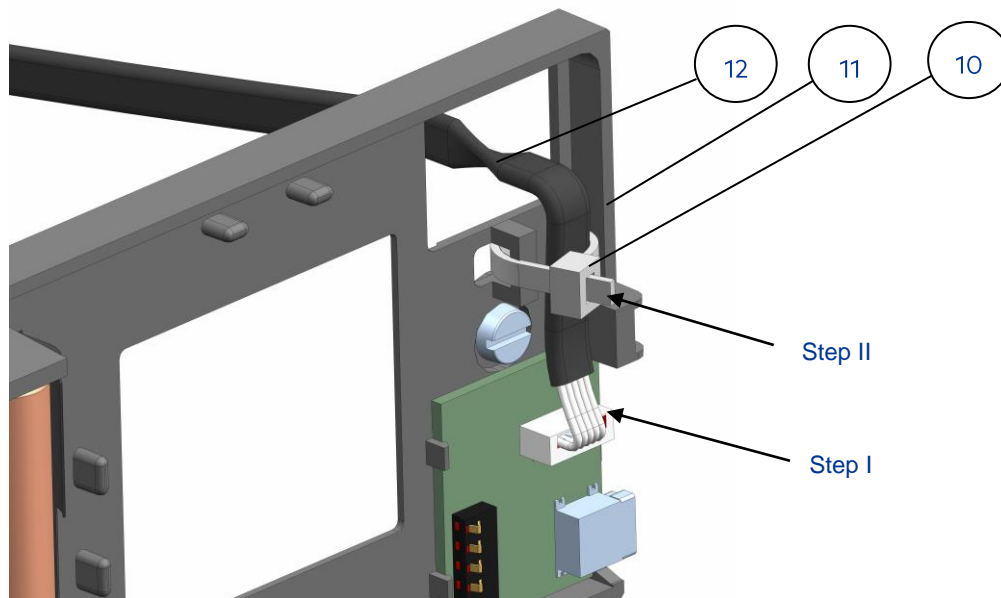

Figure 43: Connecting cable from the input unit to the lock
Plug the connecting cable (12) on the printed circuit board (PCB) of the base part (11) via the green "miniplug" (JST 5-pin) (see Figure 43, step I).
Now fix the connecting cable (12), as shown in Figure 43 step II using the cable binder (10) as traction relief.